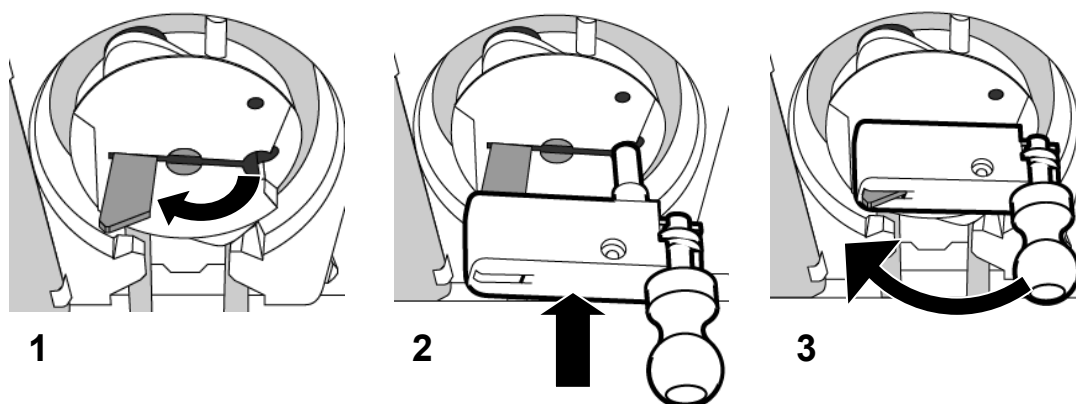

Figure 55 – Inserting the Blood Pump Crank
6. Open the pump door and flip the rotor latch outward (see Figure 55 #1).
7. Align the slot and the spindle on the crank handle with the rotor latch and hole as shown in Figure 55 #2 above.
8. Slide the crank handle in as far as it will go. The crank latch will protrude slightly from the crank handle (see Figure 55 #3).
2. Open the pump door and flip the rotor latch outward (see Figure 55 #1).
3. Align the slot and the spindle on the crank handle with the rotor latch and hole as shown in Figure 55 #2 above.
4. Slide the crank handle in as far as it will go. The crank latch will protrude slightly from the crank handle (see Figure 55 #3).